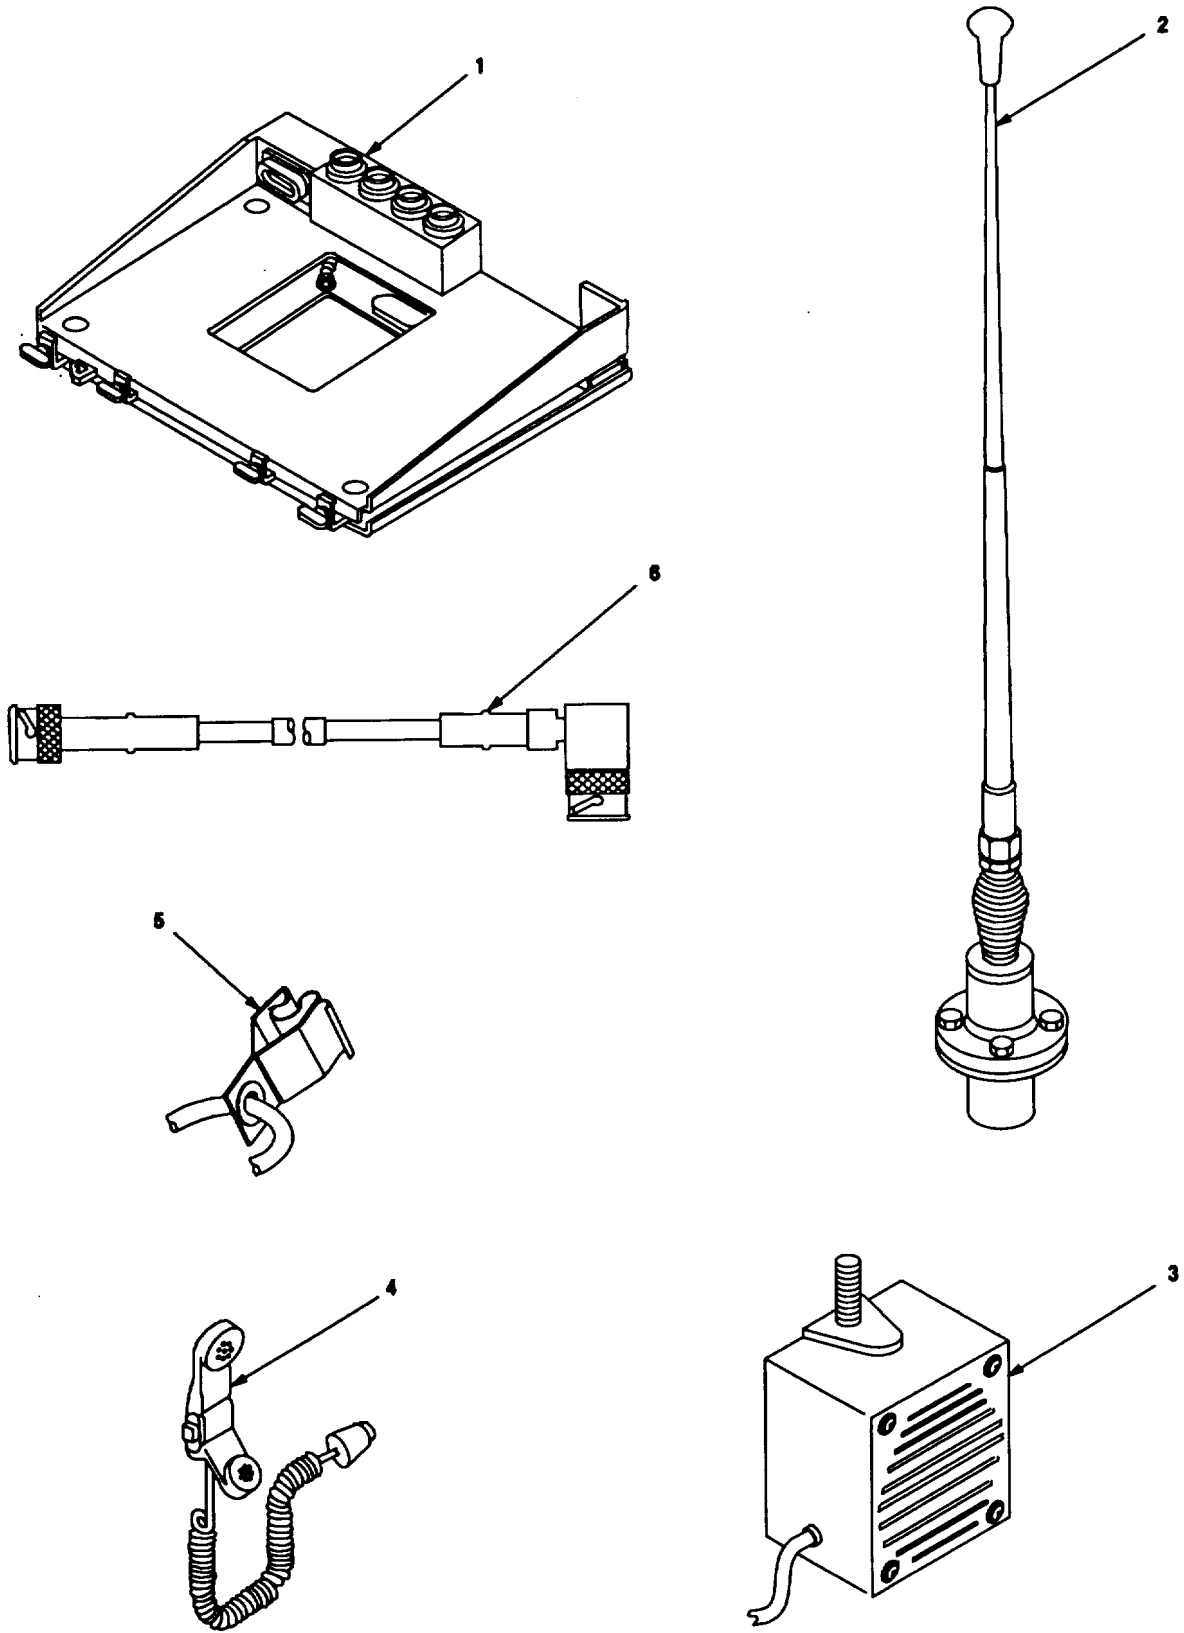

Figure 4-1. MK Illustrated Parts List
4.3.1 Items Supplied In MK and/or Required for Installation. Use Table 4-1 and figure 4-1 to identify and inventory MK parts supplied to install dual Radio Set AN/VRC-90 Series. Refer to Table 4-2 and figure 4-2 to identify additional items required to install when using RT-1439/VRC.